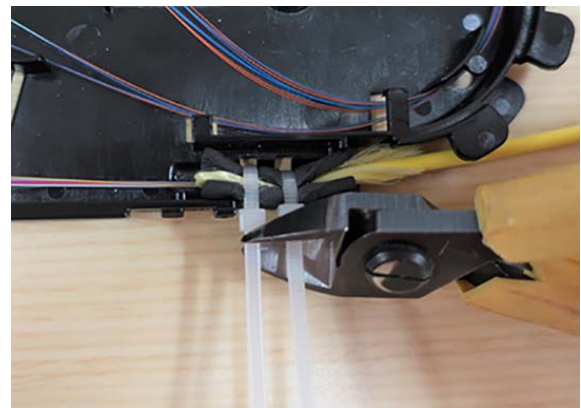

Figure 15. Snipping Off Cable Tie Ends
- Snip off ends of cable ties (Figure 15).